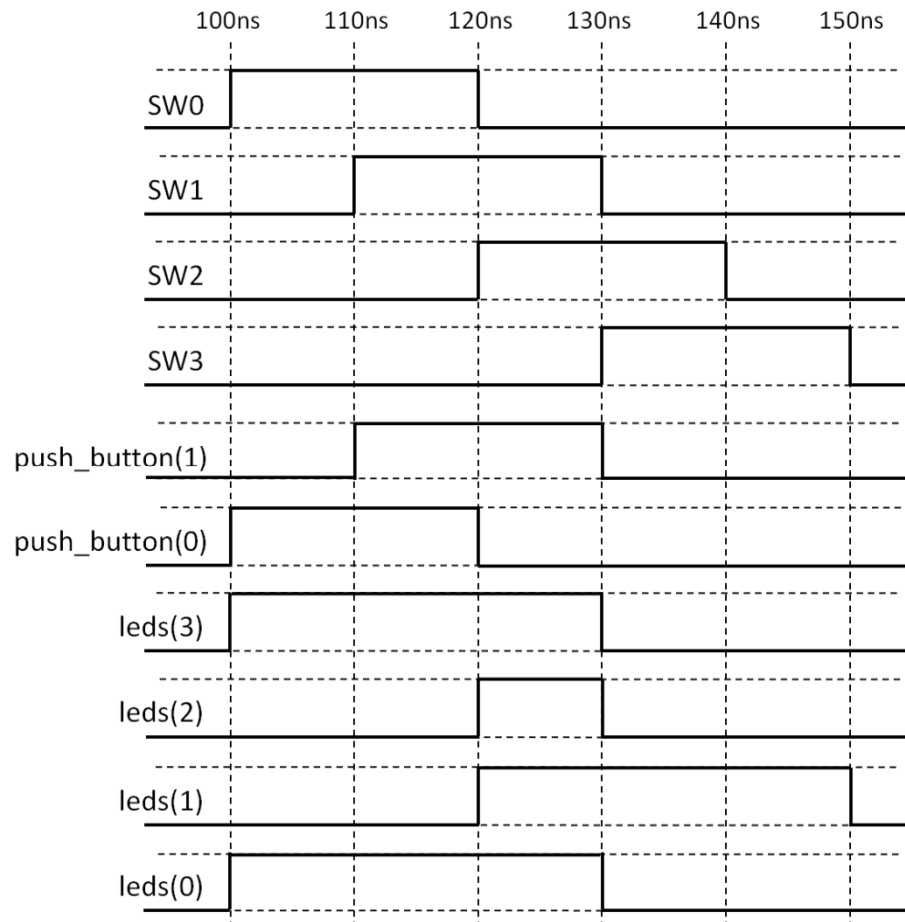
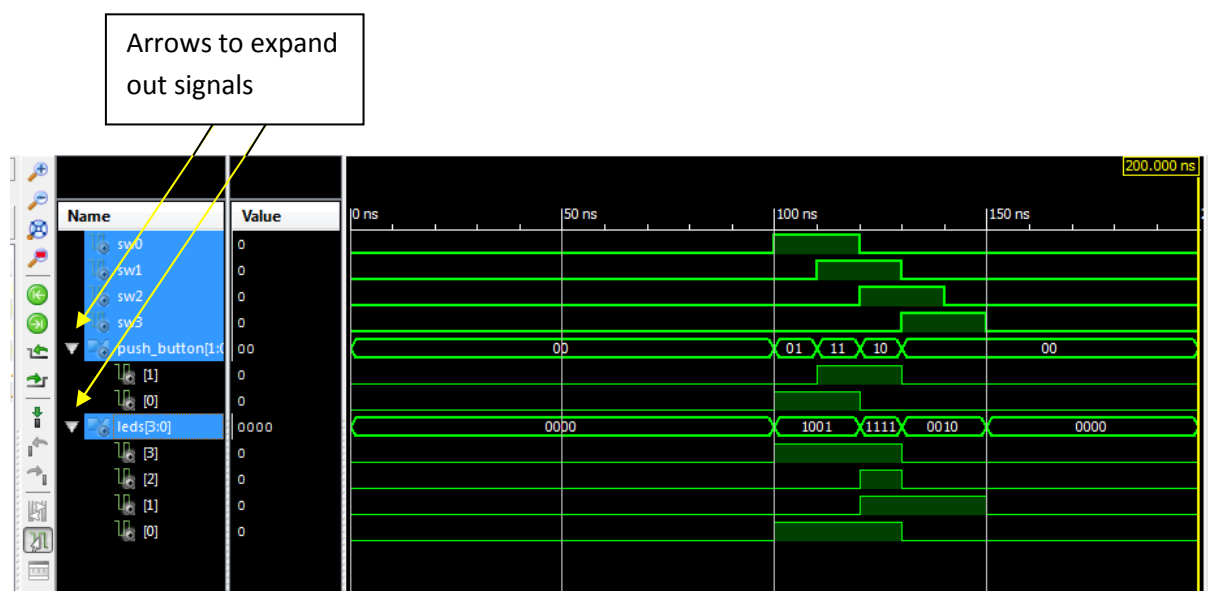

Figure 4.12: Expected input and output waveforms.
Figure 4.18: Simulation waveform display.
According to the functionality given in Table 1.1, this should result in the input and output waveforms as shown in Figure 4.12.
- Choose **View→Zoom→To Full View** or press F6. This will result in the waveforms for the duration of the simulation being displayed, in this case from 0s to 200 ns. Click on the arrows to the left of the **push_button[1:0]** and **leds[3:0]** waveforms. This expands out the view of the individual signals. Figure 4.18 shows the display of waveforms for the input and output signals.
Input signals `sw0-3`, and `push_button[1:0]` in Figure 4.18, are determined by the `stim_proc` code of `top_level_tb.vhd`, discussed in Section 4.3. The `leds[3:0]` output signals are determined as a result of running the simulation. It can be seen that the `leds[3:0]` outputs are the same as the expected outputs in Figure 4.12.